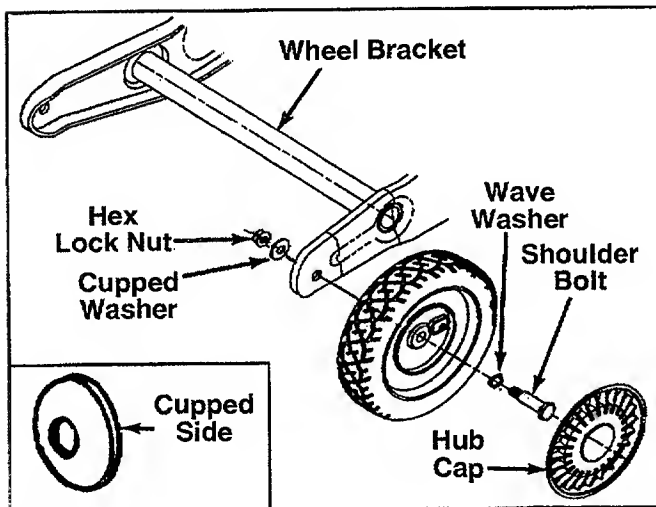

FIGURE 2.
- Remove the hex lock nuts and shoulder bolts from the front of the wheel brackets. See figure 2.
NOTE: Cupped side of the washer goes against the chipper chute. See figure 2 to identify cupped side of washer.